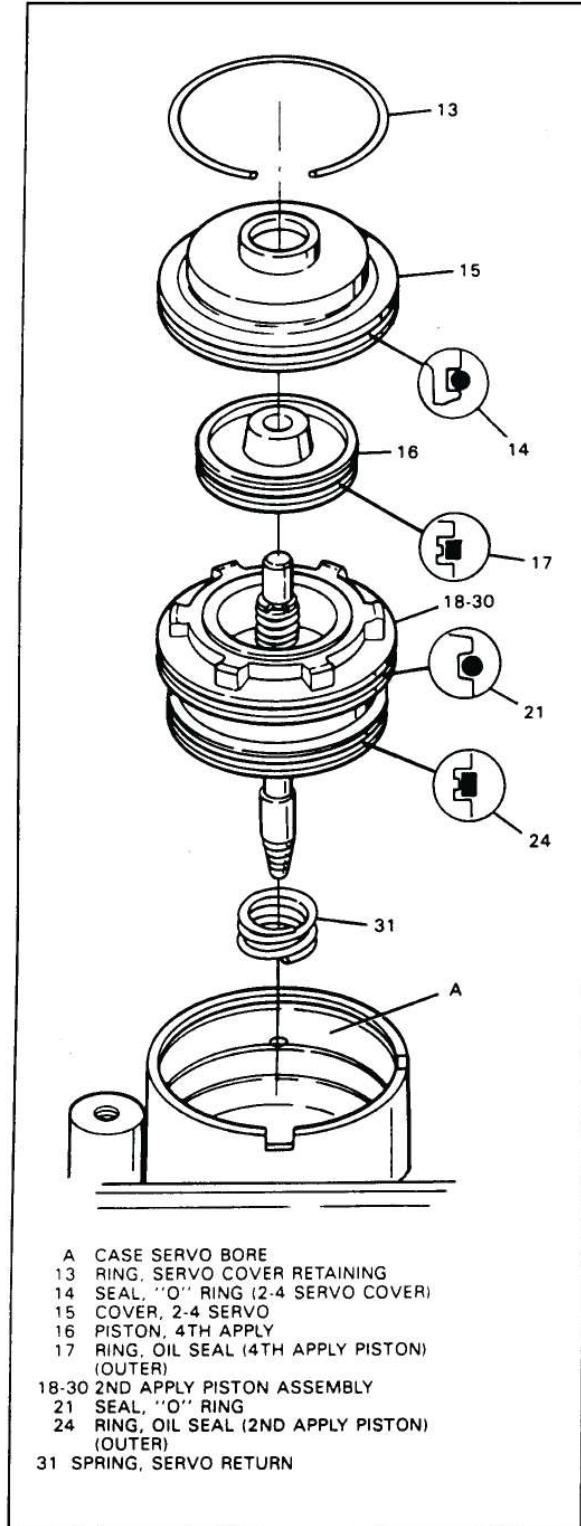

Figure 204
4. Install the servo return spring onto the servo assembly and install the 2-4 servo into the case bore, as shown in Figure 204.